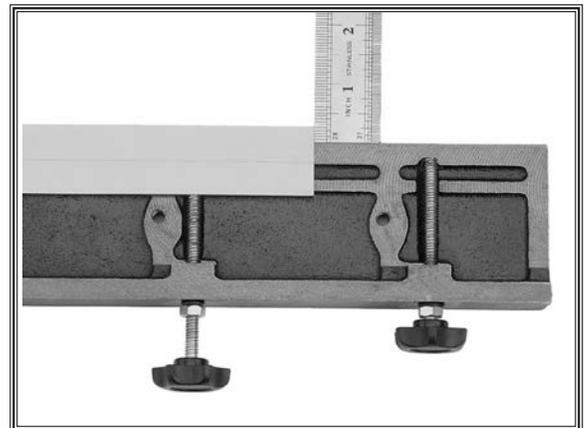

Figure 15. Knife extended beyond front edge of slide bar.
- Using a fine ruler, tighten adjustment screws to force knife forward so that it extends beyond front edge of slide bar approximately 1/4" along its full length, as shown in Figure 15.